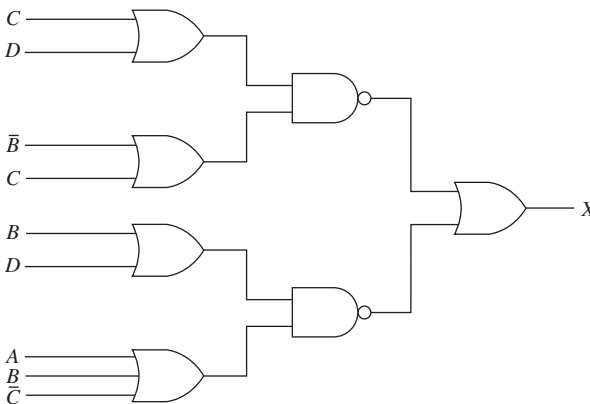

Figure P36
36. Simplify the circuit of Figure P36 down to its SOP form, then draw the logic circuit of the simplified form implemented using a 74LS54 AOI gate.